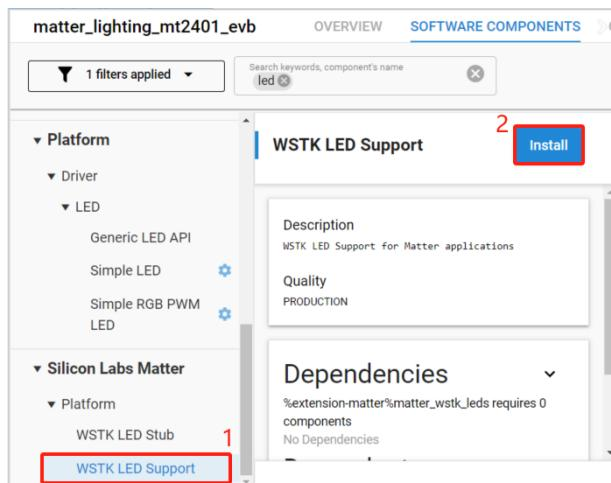

Figure 5.7
- 2) Install the "Silicon Labs Matter -> Platform -> WSTK LED Support" component, as shown in figure 5.7